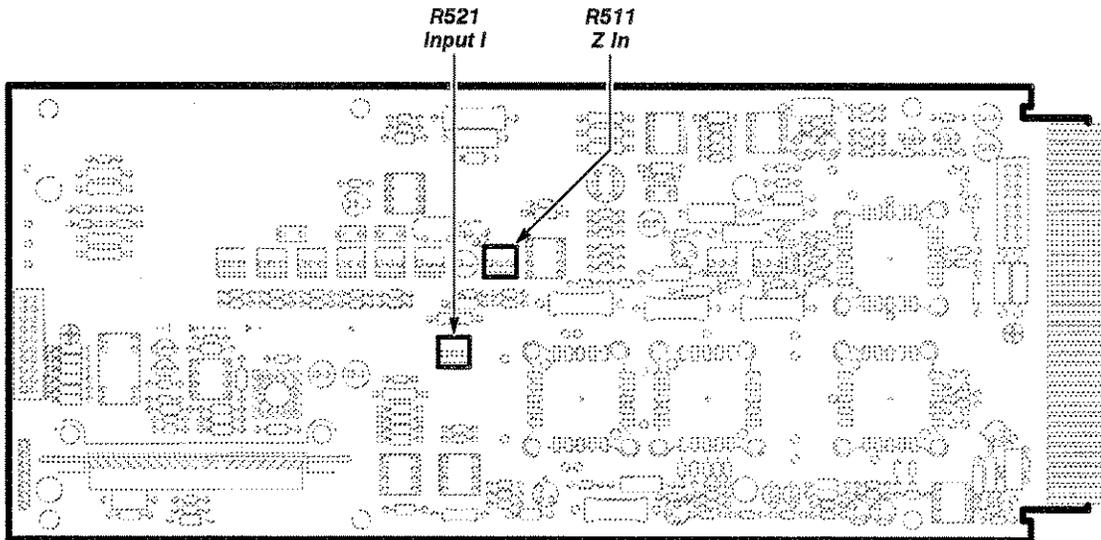

Figure 2-2 – A1 Main Board Input Current and Impedance Adjustment Locations
- Step 3: *Adjust* INPUT I adjustment, R521 on the A1 Main board, for 0.0 mV. See Figure 2-2 for adjustment locations.
- Step 9: *Adjust* Z IN adjustment, R511 on the A1 Main board, for 50.0  $\Omega$ . See Figure 2-2 for adjustment locations.